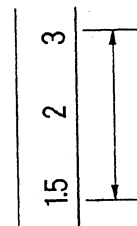

Fig. 7-11.
- 9) While holding the flange back adjusting pin ② to prevent further rotation, retighten the flange back setscrew ①
- 10) With the zoom lever fixed at its WIDE end, turn the focusing ring and set it to the position that provides the optimum definition image of the wedge. Check to assure the focusing mark position is within the range shown in Fig. 7-11. Also, rotate the focusing ring to the close (1.3m) and far (∞) extremes and confirm that the wedge is no longer in focus.